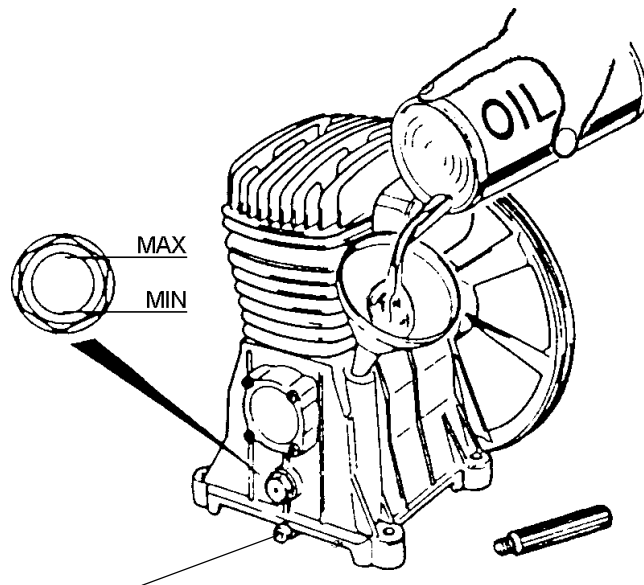

Fig 7-3
7.3 UDSKIFTNING—PÅLYLDNING AF OLIE (FIG. 7-3)